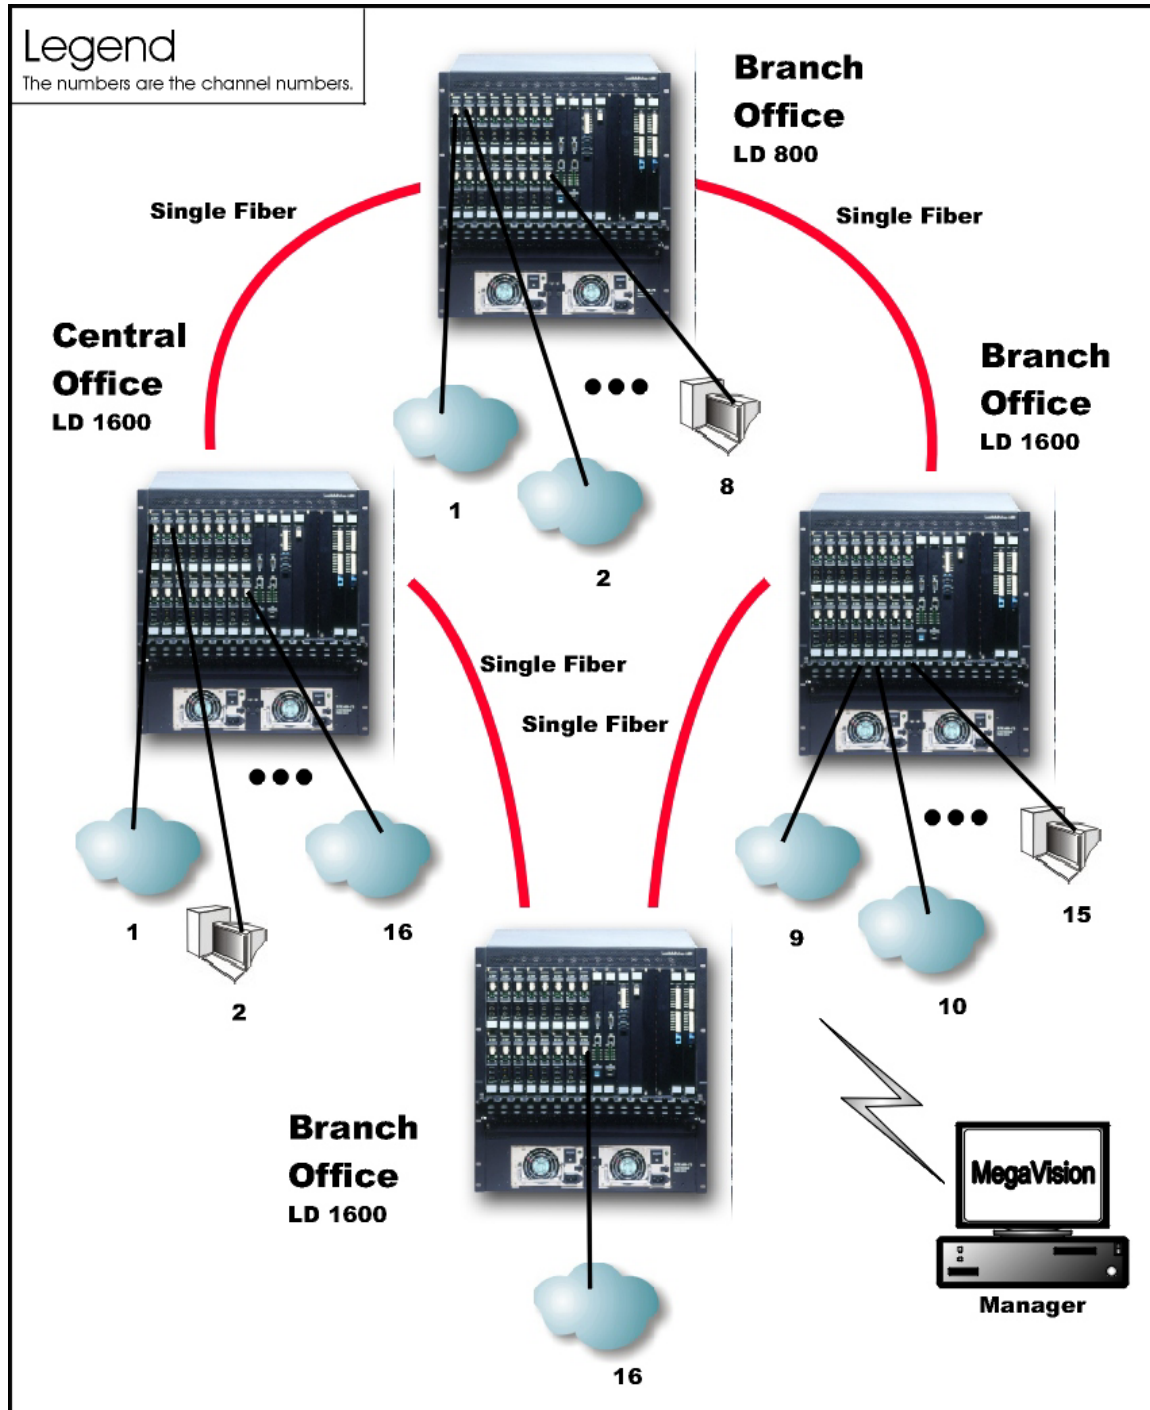

Figure 25: Central Office Ring with up to 16 Full-Duplex Channels
In Central Office Ring topology (example shown in *Figure 25*), up to 16 full-duplex channels can be created across the network. This means that up to 32 access-equipment units (e.g., LANs, PCs, etc.) can be interconnected with this network topology – two per channel. Note that all channels run from the Branch Office (BO) LD1600s to the Central Office (CO) LD1600, i.e., no channels exist between the BOs.